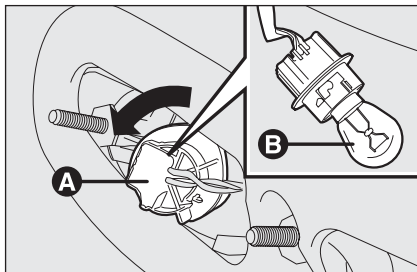

fig. 32
- turn the bulb holder **A-fig. 32** counterclockwise, remove the bulb **B** and replace it;